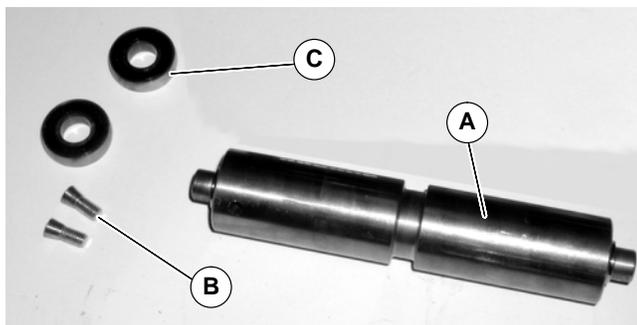

Figure 1
1. Locate Components (Figure 1).